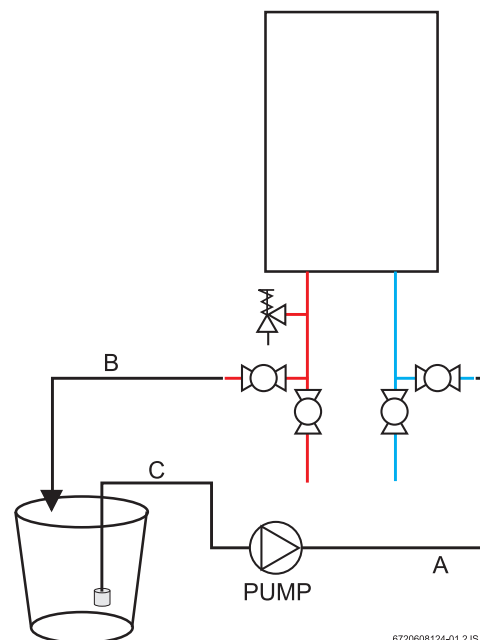

Fig. 54
5. Connect a line (A) from the outlet of the circulating pump (installer supplied) to the inlet water fitting on the water heater (see Fig. 54).
6. Using another line (B), connect to the water outlet fitting on the water heater. Route the other end of this line into a descaling reservoir.
7. Using a 3rd line (C) from the descaling reservoir, connect to the inlet side of circulating pump. Install a filter on the end of this line in the descaling reservoir.